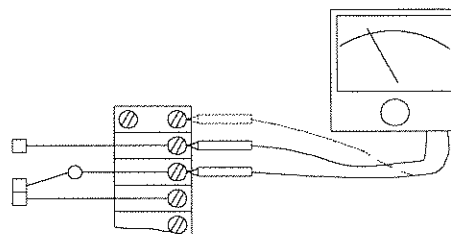

Figure 4-2
- B. Relay operation may generally be heard as an audible click when the background noise is not too high. Use the method shown in Figure 4-2 to determine if the relay contacts are switching.